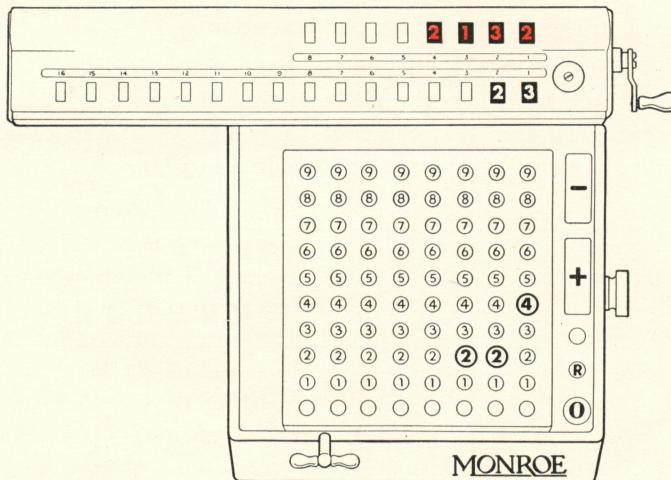

Figure 7
Step 5—Continue this operation, shifting the carriage and depressing minus and plus bars. At the completion of the problem the quotient, 2132, will appear in the upper dials and the remainder, 23, will appear in the lower dials. The machine at this point appears as shown in Figure 7.